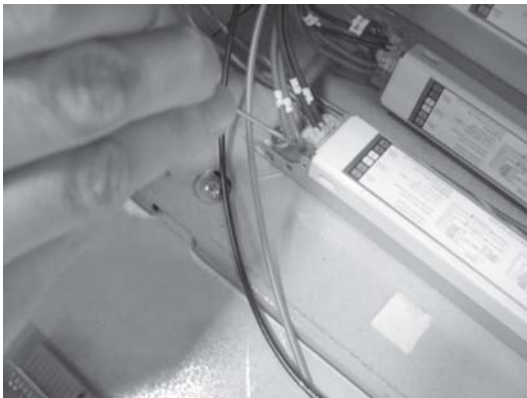

Figure 3
3. Using a small screwdriver, press down on the wire retainers on the ends of the ballast and remove wires from ballast. Figure 3.